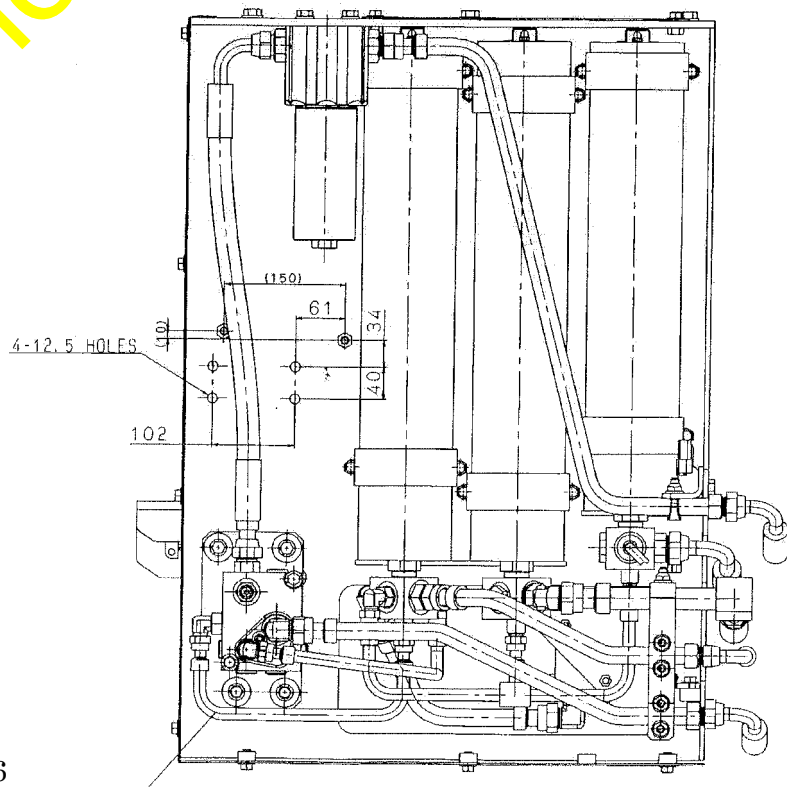

Fig. 6
- 3) Rework the bracket onto which the accumulator is installed. (Refer to Fig. 6.)